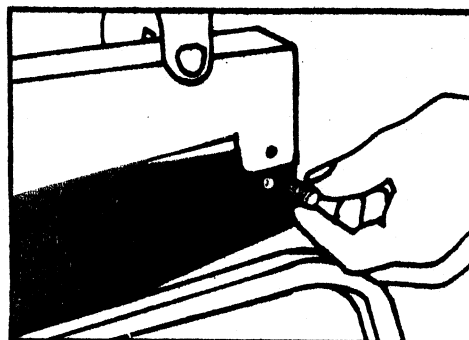

Figure 16
4. Clean pasting machine trough and lid with water and sponge. To remove lid for cleaning simply remove brass screws (Figure 16).